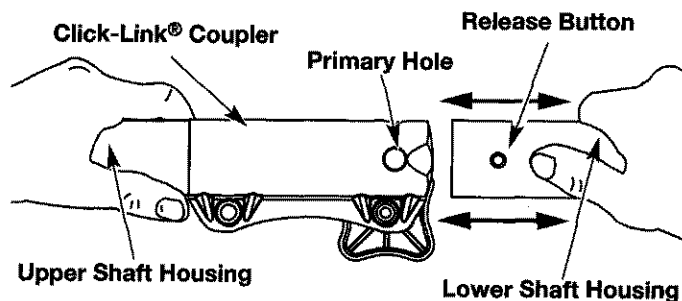

Fig. 13
3. While firmly holding the upper shaft housing, pull the cutting attachment or add-on straight out of the Click-Link® coupler (Fig. 13).
2. While firmly holding the add-on, push it straight into the Click-Link® coupler (Fig. 13).